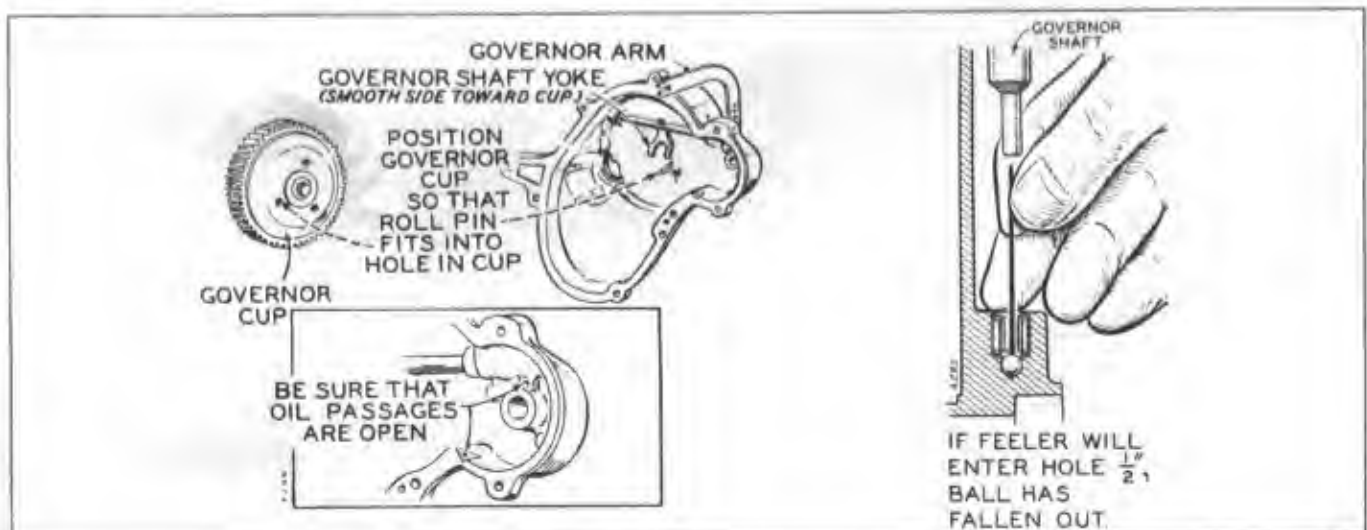

Figure 2. Gear Cover Assembly
1. Work the governor shaft to check for binding and see that the governor-shaft-end-thrust ball is in place (Fig. 2). Later models have larger ball which will not fall out.
3. Turn the governor cup so the stop pin in the gear cover will fit into one of the holes in the cup surface (Fig. 2). Measure the distance from the end of the stop pin to the mounting face of the cover. It should be  $25/32$  in. If it is not, replace the pin. Pin should be positioned with open end facing crankshaft seal.